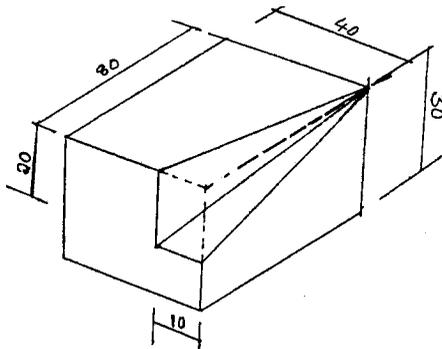

Figure 1
I. The isometric view of a component is shown in figure 1 and 2. Draw its orthographic projections. (20)